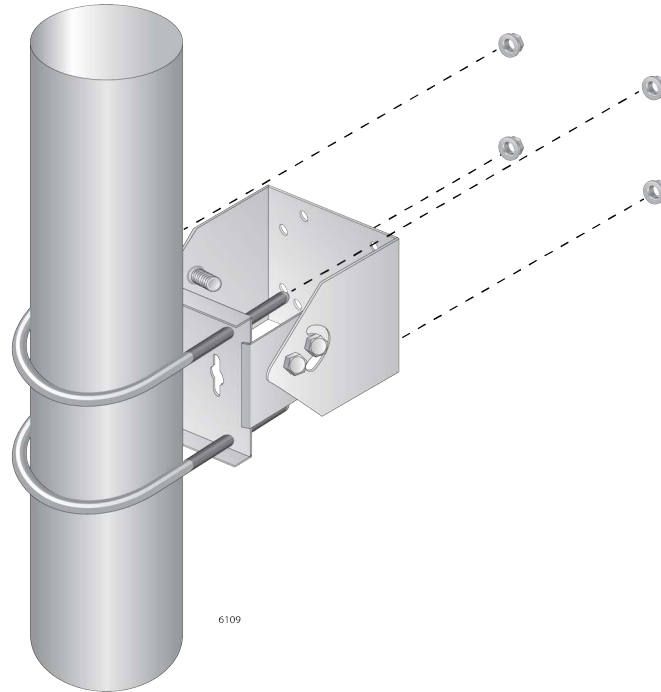

Figure 32. Attaching the Pole-Mount Bracket to the Pole
2. Attach the pole mount brackets to the pole with the two U-bolts. See Figure 32 on page 52.
Figure 32 shows how to attach the pole mount bracket to a vertical pole as an example. You can also install the bracket to a horizontal pole.